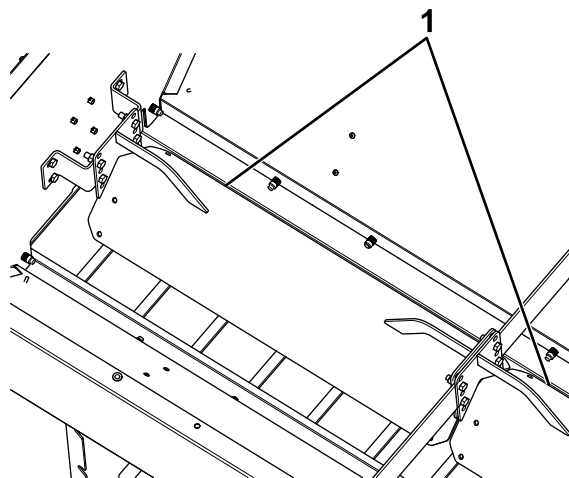

Figure 22
4. Remove the hardware securing the baffle to the inside of the spreader (Figure 22).
5. Raise or lower the baffle to the desired height and secure it with the previously removed hardware (Figure 22).